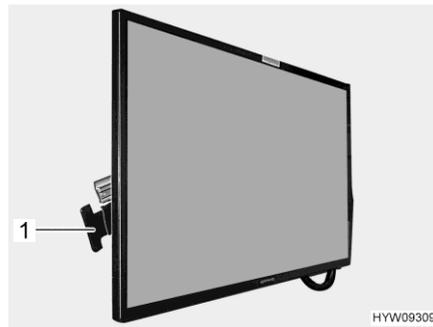

Fig. 60 Flat screen
- Press handle (Fig. 60,1) towards the flat screen and hold it there. The flat screen is unlocked.